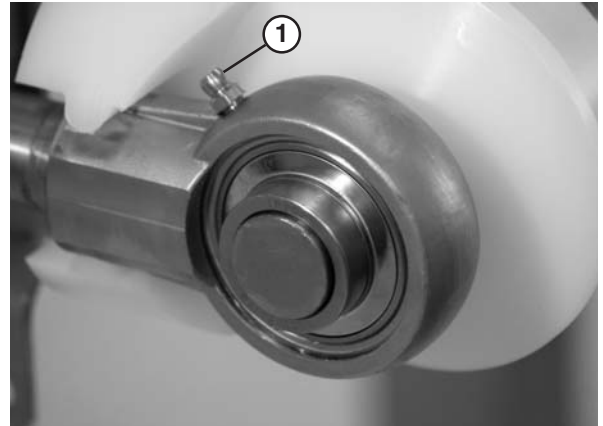

Figure 49
1. Add grease to the bearing using the zerk fitting (Figure 49, item 1) on the exterior of the bearing shaft assembly.